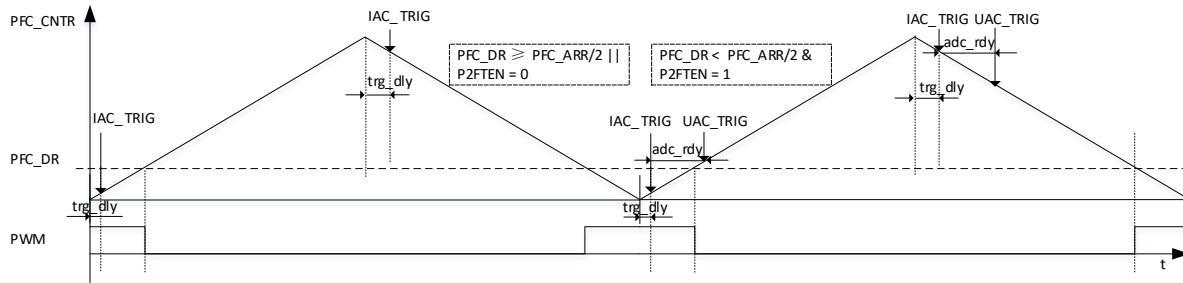

Figure 12-6 Diagram of PWM Output and IAC/UAC Sampling
- The sampling point is determined according to PFC\_CR2[P2FTEN] and PFC\_DR (as shown in Figure 12-6). If PFC\_CR2[P2FTEN] = 0 and PFC\_DR < PFC\_ARR/2, sampling is triggered when PFC\_CNTR reaches the underflow point. If PFC\_CR2[P2FTEN] = 1 or PFC\_DR ≥ PFC\_ARR/2, sampling is triggered when PFC\_CNTR reaches the overflow point. The time delay for sampling is configurable by PFC\_TRGDLY. The overflow point can be set at PFC\_TRGDLY\*8, and the underflow point at (PFC\_ARR - PFC\_TRGDLY\*8).